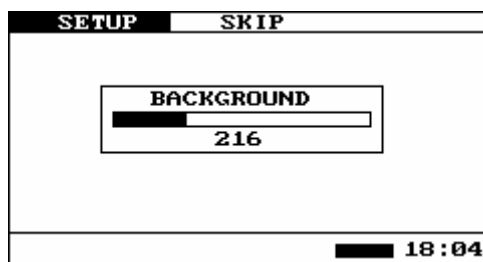

Figure 5. BACKGROUND mode screen view
1.3.3.3. On completion up warming, NSD turns into BACKGROUND mode. Fig. 5 shows BACKGROUND mode screen view.